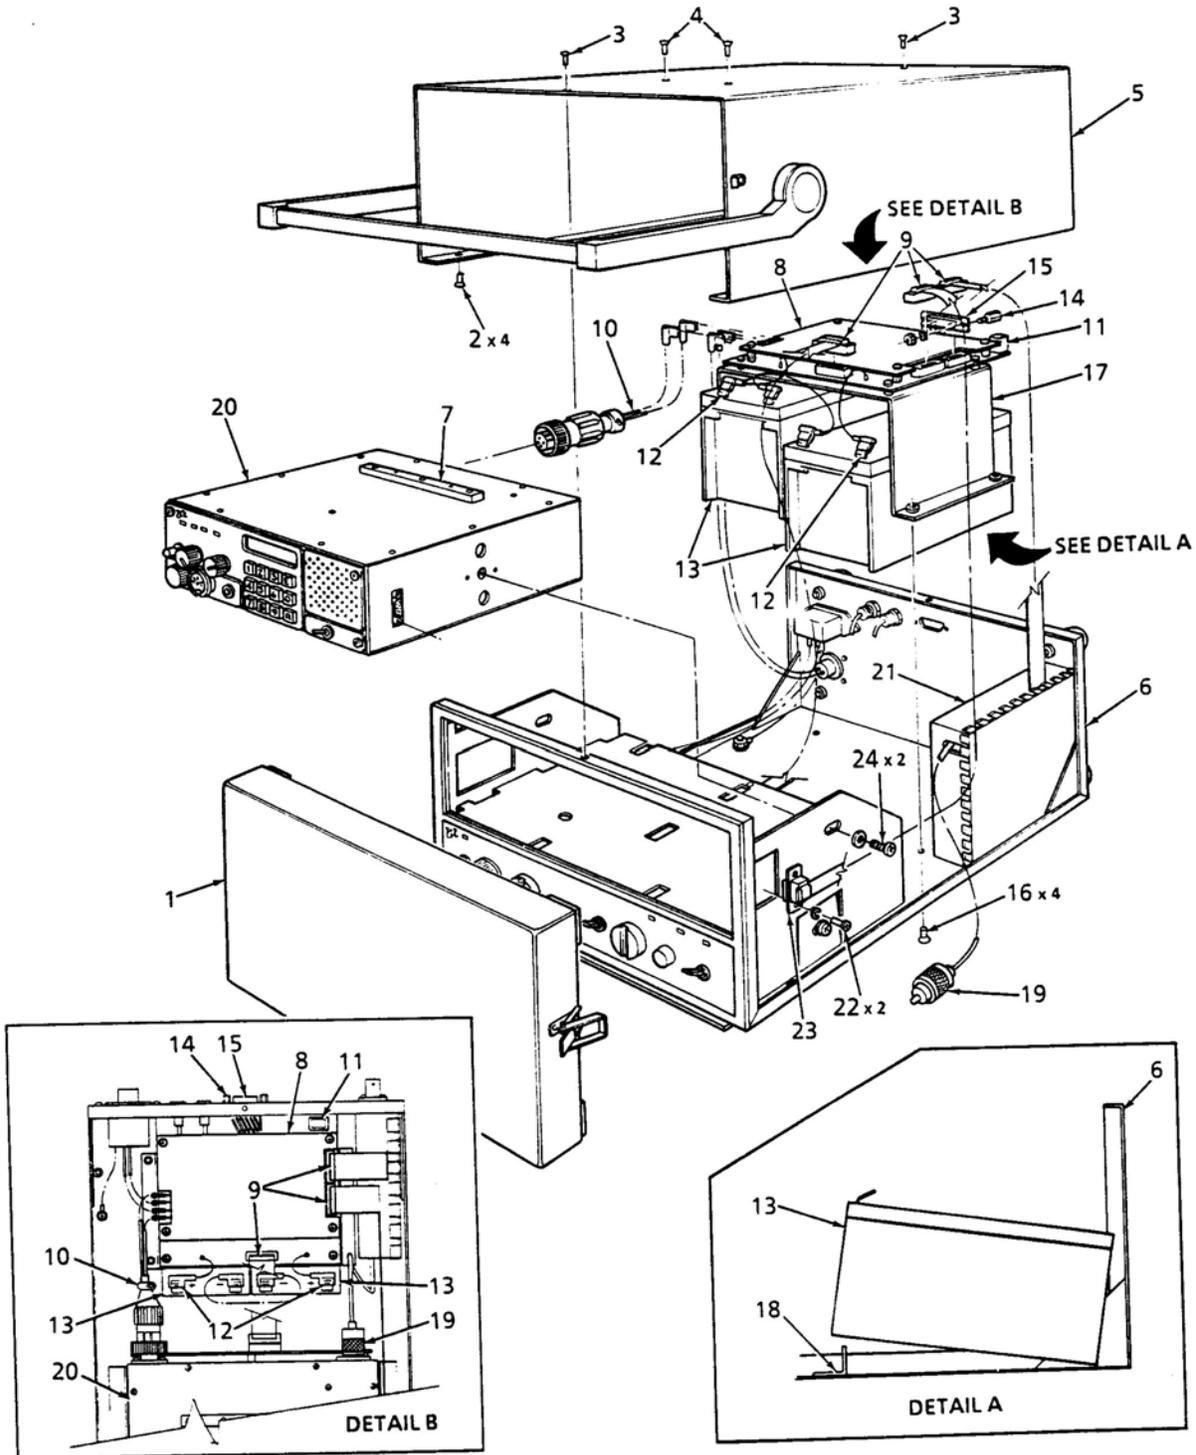

Figure 2.1 Battery Installation and Removal
#### 2.1.1 Disassembly General (Refer Figure 2.1)
#### 2.1.2 Assembly General (Refer to Figure 2.1)
- (1) Remove Case Assembly Cover. Refer to paragraph 2.1.1 and Figure 2.1.
- (2) Disconnect (+) and (-) Terminal Lugs (12) on Battery (13).
- (3) Disconnect UHF connector (19) and External DC Cable (10) from rear of transceiver (20). Refer to Figure 2.1.
- (4) Remove and retain 2 screws, and 2 lockwashers (22) securing Ribbon Cable (23) to D connector on right side of transceiver (20). Remove connector from socket.
- (5) Remove and retain 2 screws, and 2 washers (24) securing Transceiver to chassis (6).
- (6) Slide Transceiver to rear of chassis. Lift Transceiver clear of chassis.
- (1) Position Transceiver (20) in Case Assembly. Refer to Figure 2.1. Slide transceiver to front of Case Assembly. Ensure that Transceiver Front Panel is flush with front of Case Assembly and Transceiver mounting holes align with chassis threads. Tighten screws.
- (2) Position 2 Panhead screws and 2 washers (24) in threaded holes. Secure Transceiver to Chassis (6).
- (3) Install 2 panhead screws and 2 lockwashers (22) securing Ribbon Cable (23) to D Connector.
- (4) Connect UHF Connector (19) and External DC Cable (10) to connectors at rear of Transceiver.
- (5) Replace Case Assembly Cover (Refer to paragraph 2.1.2).